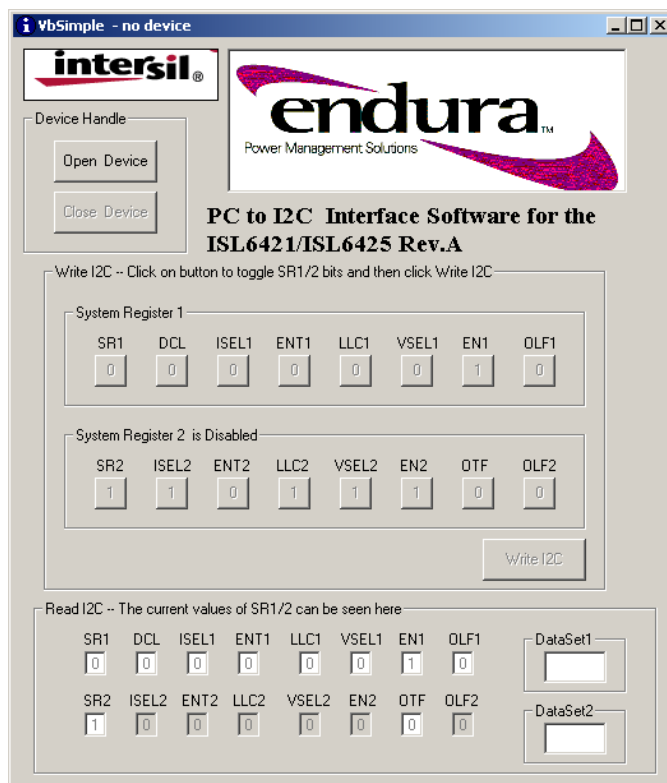

FIGURE 3. PC TO I²C APPLICATION WINDOW
9. Run the ISL6421&25_I2C_reva.exe program copied to C:\some directory'. Figure 3 shows the PC to I²C software application window. Click the 'Open Device' button.